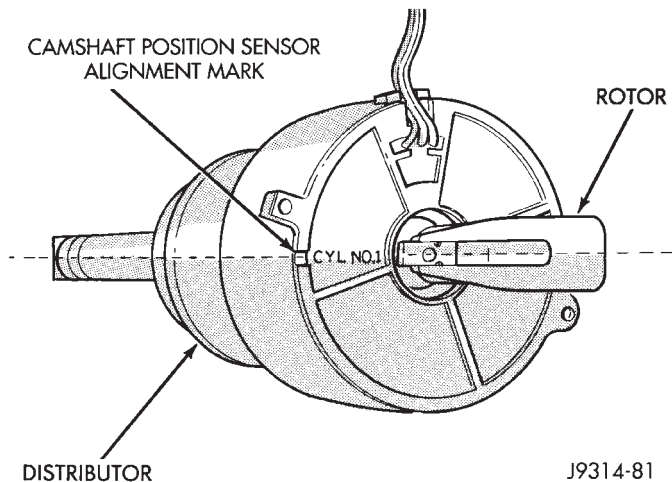

Fig. 34 Rotor Alignment Mark—5.2L/5.9L Engines
- (10) The distributor rotor should now be aligned to CYL. NO. 1 alignment mark (stamped) into camshaft position sensor (Fig. 34). If not, rotate crankshaft through another complete 360 degree turn. Note position of number one cylinder spark plug cable (on the cap) in relation to rotor. Rotor should now be aligned to this position.
(1) Clean top of cylinder block for a good seal between distributor base and block.
(2) Lightly oil the rubber o-ring seal on distributor housing.
(3) Install rotor to distributor shaft.
(4) Position distributor into engine to its original position. Engage tongue of distributor shaft with slot in distributor oil pump drive gear. Position rotor to number one spark plug cable position.
(5) Install distributor holddown clamp and clamp bolt. Do not tighten bolt at this time.
(6) Rotate distributor housing until rotor is aligned to CYL. NO. 1 alignment mark on camshaft position sensor (Fig. 34).